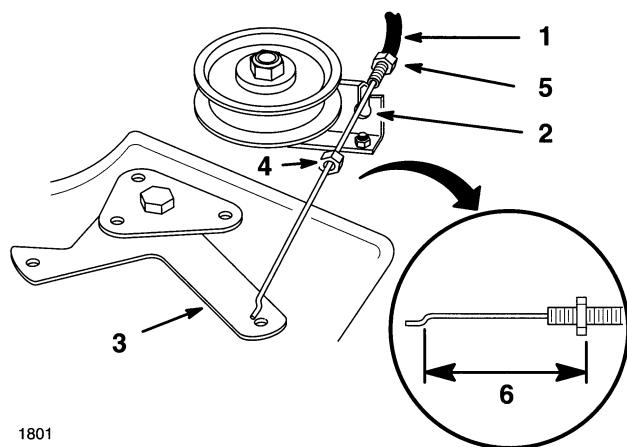

Figure 8
10. Thread first jam nut onto the blade control (PTO) cable all the way. Rout cable through slot in deck bracket and thread second jam nut onto cable (Fig. 8).
11. Hook Z end of blade control (PTO) cable into bellcrank arm (Fig. 8).
12. Engage blade control (PTO) lever on dash. Measure distance between Z end of cable and mounting bracket (Fig. 8). Adjust jam nuts so 2-1/2" (63.5 mm) dimension is obtained (Fig. 8).